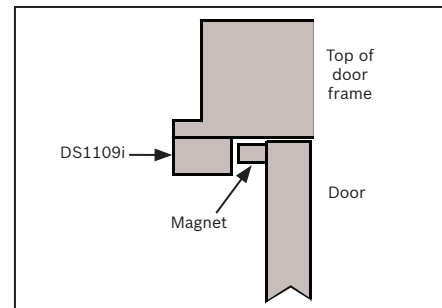

Figure 3.2: Side View
- Mount the magnet to the top of the door. The magnet should be placed so that it aligns with the side of the DS1109i. Do not allow the magnet to cover the front of the detector. Refer to Figure 3.2.